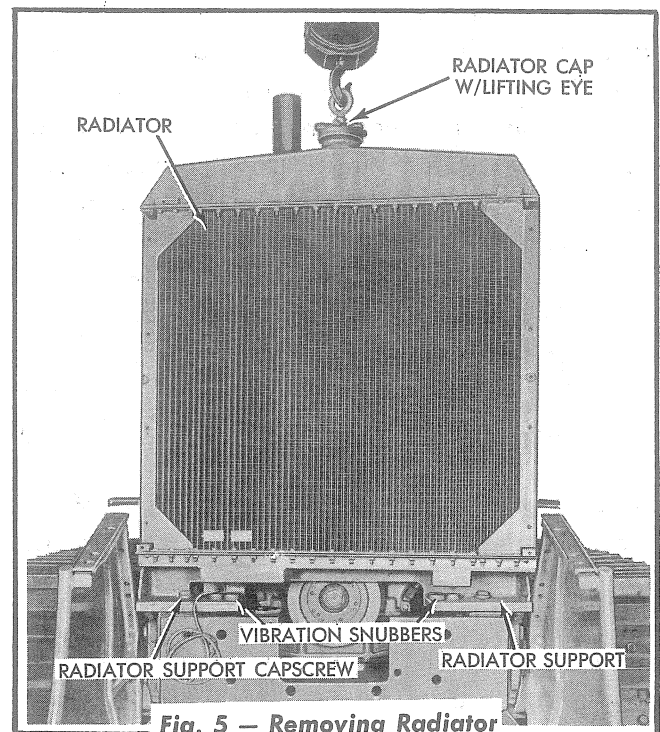

Fig. 5 — Removing Radiator
4. Using a suitable hoist as shown in Fig. 5, raise and remove the radiator. *NOTE: An old radiator cap may be used for removing the radiator as shown in Fig. 5, by drilling a hole through the center of the cap and inserting a lifting eye bolt through the cap. Retain the eye bolt by the use of a heavy plain washer and nut.*
3. Using a suitable hoist and lifting device (Fig. 5) install the radiator in position on the radiator support, inserting the radiator inlet and radiator outlet elbows into the radiator upper and lower hoses.